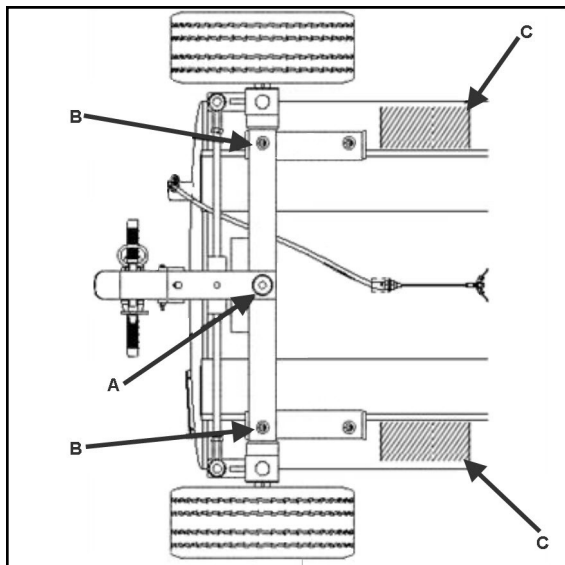

Figure 4-2 Lift Points
- Raise equipment with suitable maintenance jack (see Figure 4-2, arrow A for jack placement) high enough to remove wheel assembly.
- Place approved jack stands under front axle (see Figure 4-2, arrow B for stand placement).
To remove the entire Front Undercarriage assembly, the equipment must have the front end raised. See Figure 4-2 for lift points.
- Place cribbing under tank skids (see Figure 4-2, reference arrows C) to safely support the equipment.
- Remove bolts (2) and nuts (3).
- Pull Front Undercarriage forward. Note location of rubber mounting pads (5).
- Raise equipment with suitable maintenance jack high enough to remove wheel assembly. (See Figure 4-2, arrow A for jack placement) .
- Place approved jack stands under rear axle (see Figure 4-2, arrow B for stand placement).